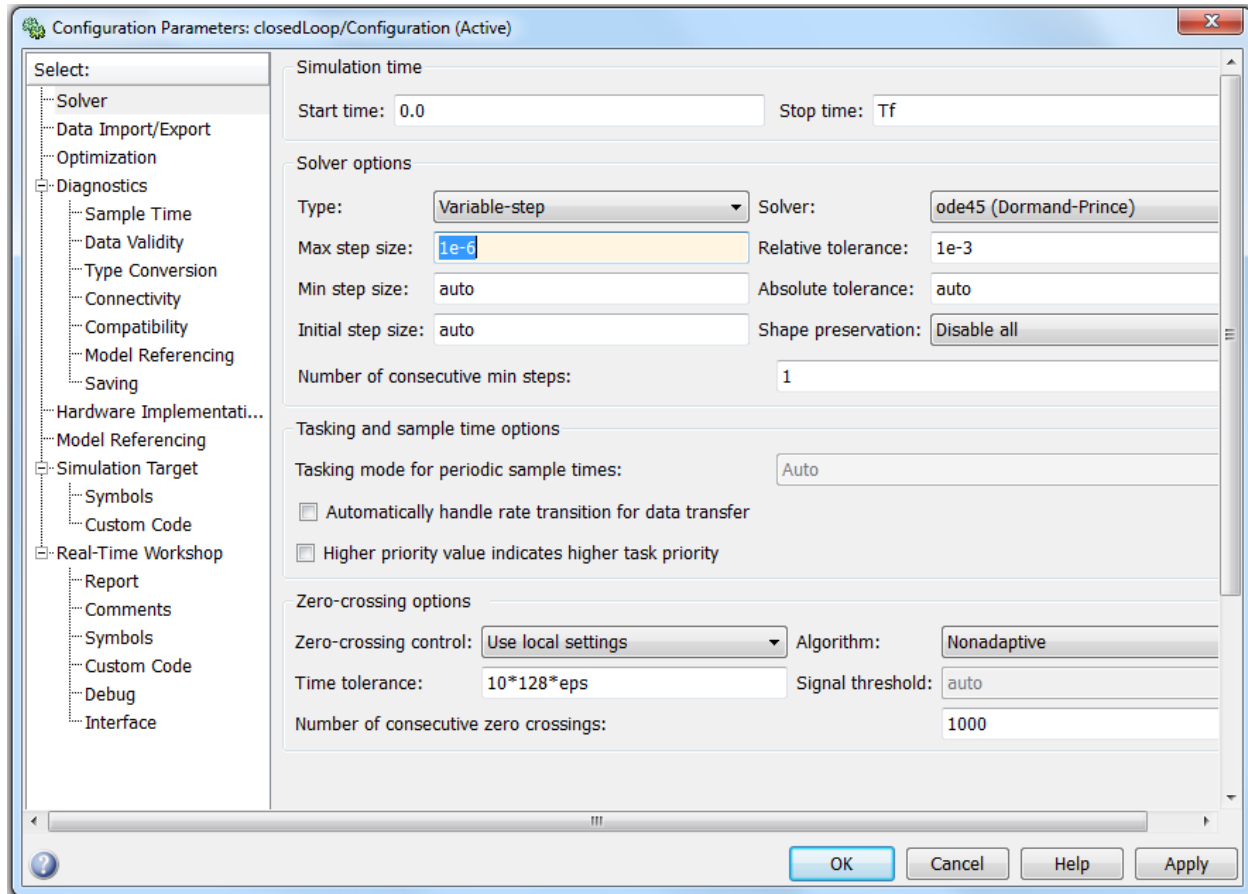

Figure 7: Simulation Configuration Parameters
3. Since we are dealing with small time scales, we will need to modify the maximum default time step in Simulink. To do this click Simulation  $\rightarrow$  Configuration Parameters. Under the **Solver** change the **Max step size** from auto to to **1e-6**. The next two figures show the basic idea. Save the model file when you are done (see Figure 7).